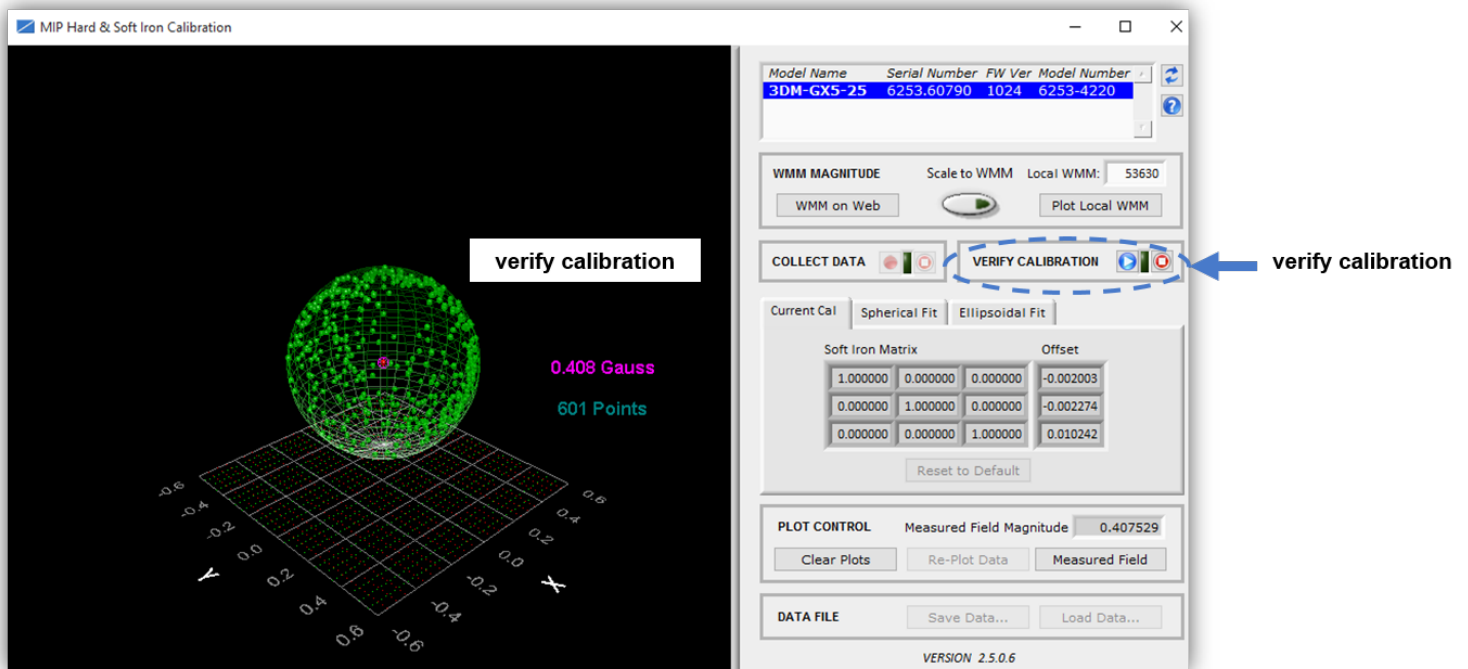

Figure 29 - Verify Calibration
9. Start a calibration verification by clicking the Start Streaming Data button next to Verify Calibration (Figure 29 - Verify Calibration). Rotate the device in all orientations in the same way as during calibration. When completed click the Stop Streaming Data button next to Verify Calibration. The resulting data points should be on or near the spherical grid. Hold the left mouse button and drag to rotate the image. The mouse wheel can be used to zoom in and out. If the fit is not close, the sensor may require re-calibration. If it is close, as shown, calibration and verification is complete.